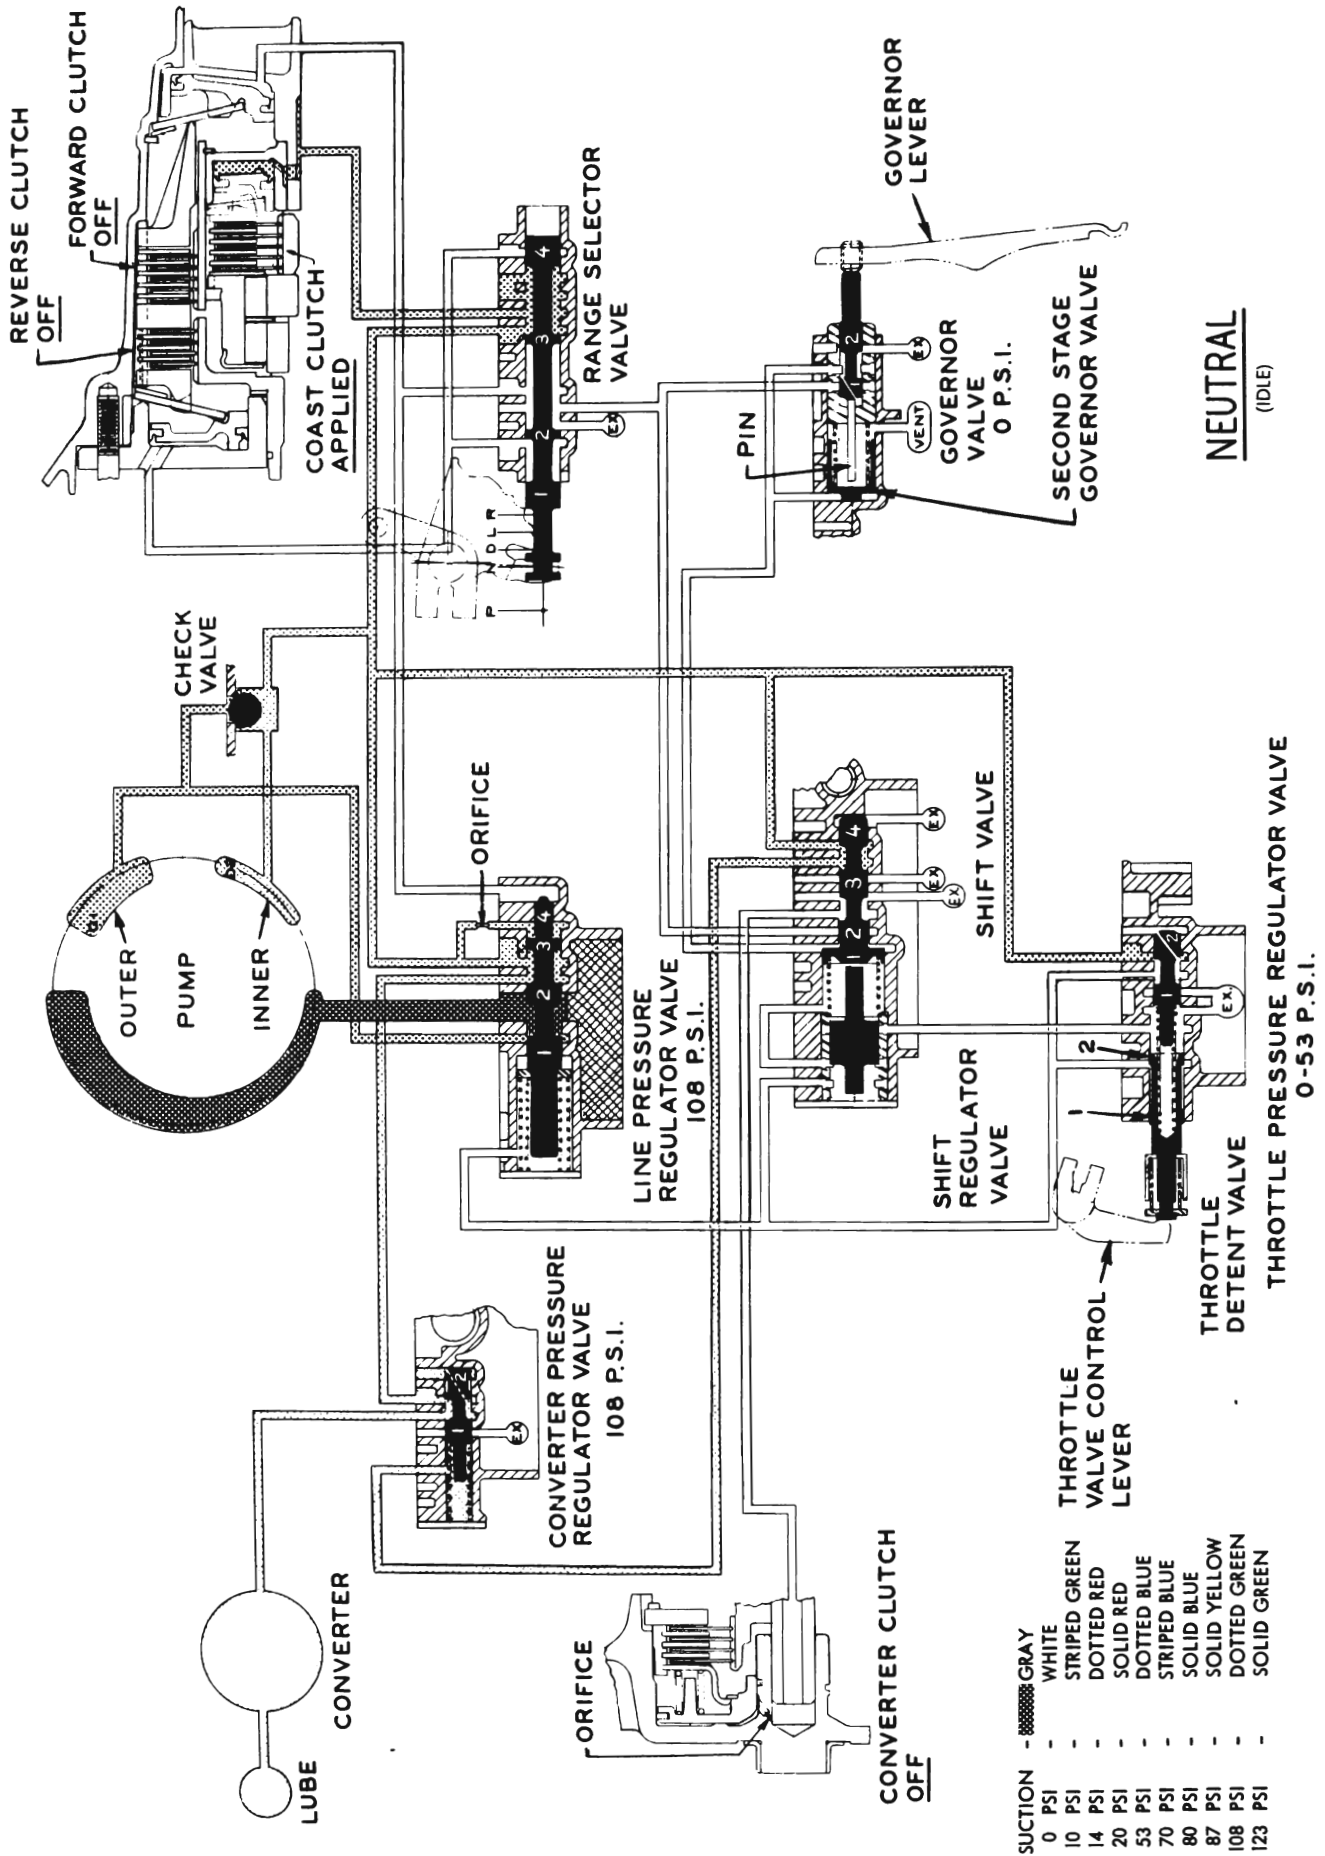

Figure 5-28—Oil Flow in Neutral and Park
**NOTE:** The pressures indicated on Figures 5-28, 5-29, 5-30, 5-31, 5-32, 5-33 are calculated pressures only. Due to manufacturing tolerances, these pressures may not be attained, although the transmission is functioning perfectly.
During operation in Neutral, the range selector valve is positioned as shown in Figure 5-28. In Park range, the valve is positioned further to the left. In both Neutral and Park, oil supply to the reverse and forward clutches is
Thus, the converter members are allowed to turn, but transmit no torque to the output shaft. See Figure 5-28.